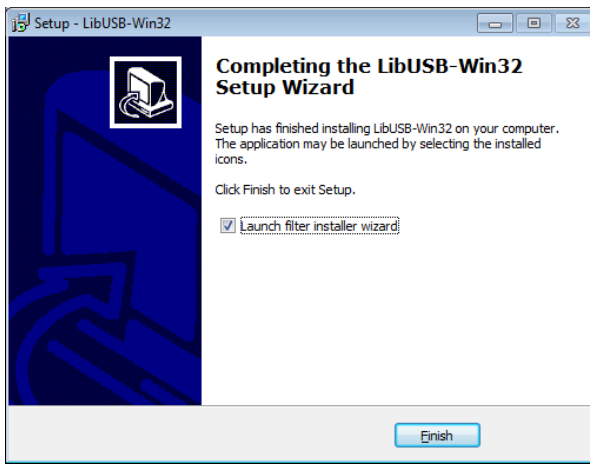

Figure 5.1.
2. Then run `libusb-win32-devel-filter-1.2.6.0.exe`, which can be found in the folder '`<grmon-ver>/share/grmon/`', where `<grmon-ver>` is the path to the extracted win32 or win64 folder from the the GRMON archive. This will install the libusb filter driver tools. Step through the installer dialog boxes as seen in Figure 5.1 until the last dialog. The `libusb-win32-devel-filter-1.2.6.0.exe` installation is compatible with both 64-bit and 32-bit Windows.